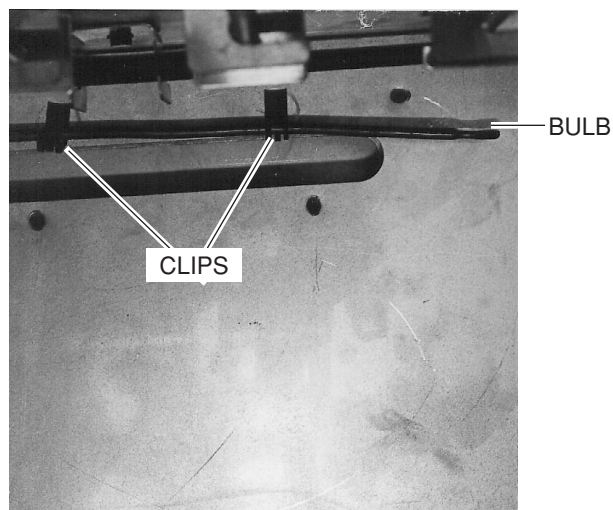

Fig. 17
8. Lift the thermo bulb out of the bulb clip holders located inside the oven on the top oven back. (Fig.17)